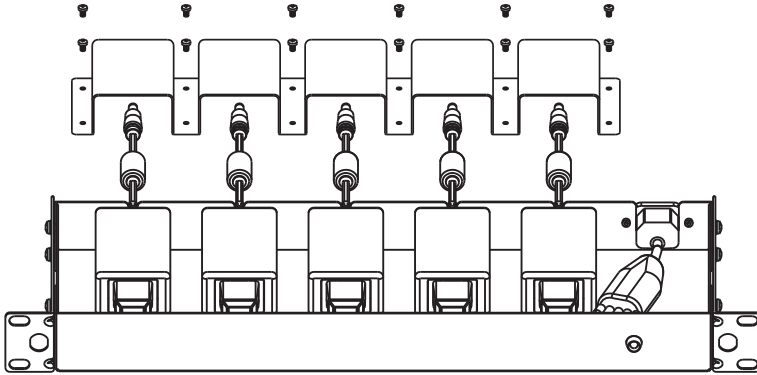

Fig. 3
- Place the power supplies into the case side by side and insert the Distributed AC power cord ② into each power supply. Pull out the DC output cable and press the DC output cable into the cable hole from the upside of rear panel, as shown in Fig. 3.